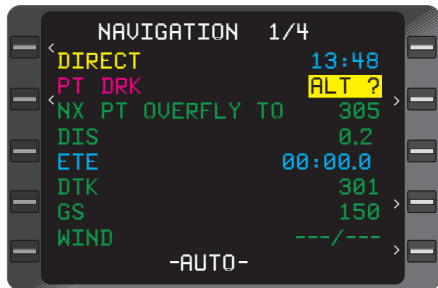

Figure 3-87
2. **BACK** Key - DEPRESS. **ALT?** will be displayed in the cursor. (Figure 3-87)